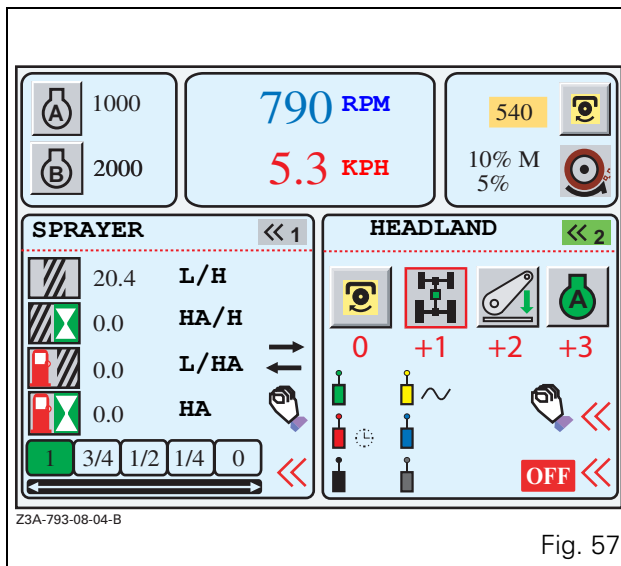
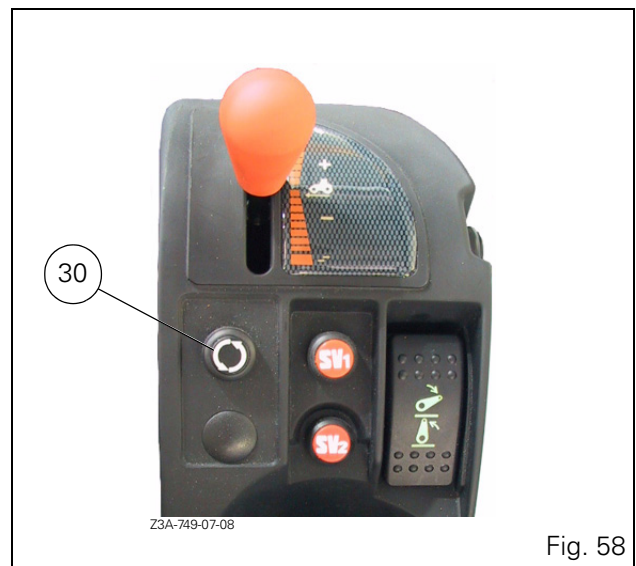

Fig. 57
Fig. 58
- To return to the previous menu, press the key «₃. The window (Fig. 57) is displayed.
If a sequence is stored in the HEADLAND application, it can be activated from the WORK application. Example: (Fig. 57).
NOTE: To activate a sequence, see section 7.3. (MEMORIES application). In this case, the actions are displayed in the icons (e.g.: Fig. 57).
Description (Fig. 57):
The red rectangle around the icon (Fig. 57) indicates the next action, that will be performed as soon as the headland button on the armrest (30 Fig. 58) is pressed. At start-up, only 3 actions are displayed as no action has yet been performed.